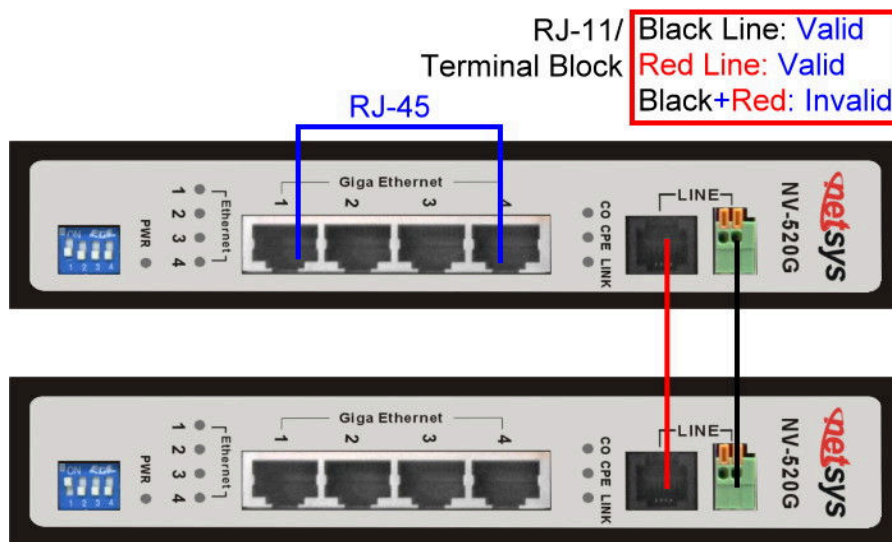
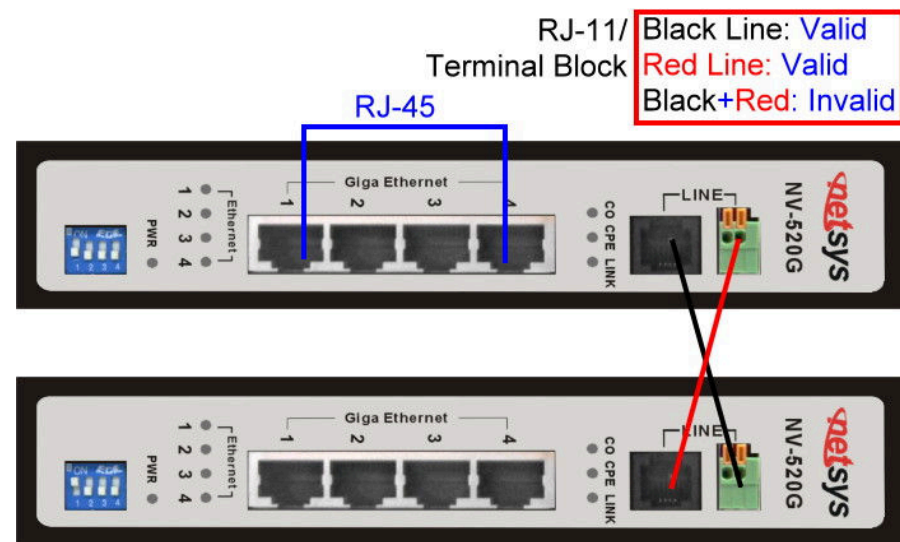

Figure 2.6.1 NV-520G line ports straight connection
Figure 2.6.2 NV-520G line ports crossover connection
- ◆ The line port has 2 connectors: RJ-11 and terminal block. It is used to connect from NV-520G (CO) over single pair phone cable to NV-520G (CPE) line port (point to point solution). Take note that NV-520G line port cannot be used at the same time. Either RJ-11 port is connected or terminal block is connected using straight connection (Figure 2.6.1) or cross-over connection (Figure 2.6.2)